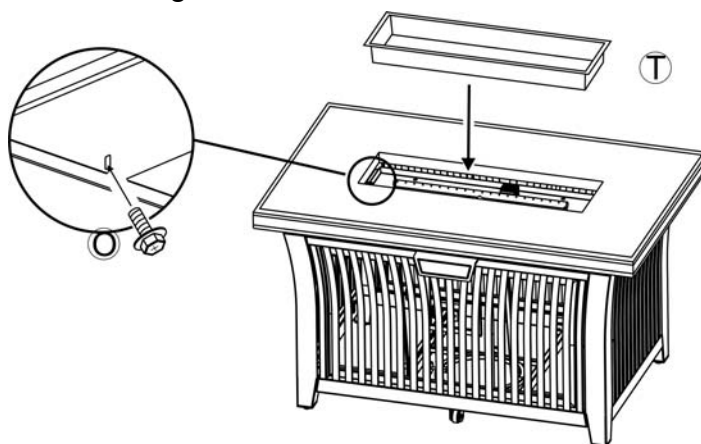

Figure 4
3. Place the burner pan protective ring into the firepan/burner assembly as shown in Figure 4. Align the holes in the burner pan protective ring with the pre-drilled holes on the firepan/burner assembly. Secure the burner pan protective ring to the firepan/burner assembly by using the two M4 screws as shown in Figure 4.